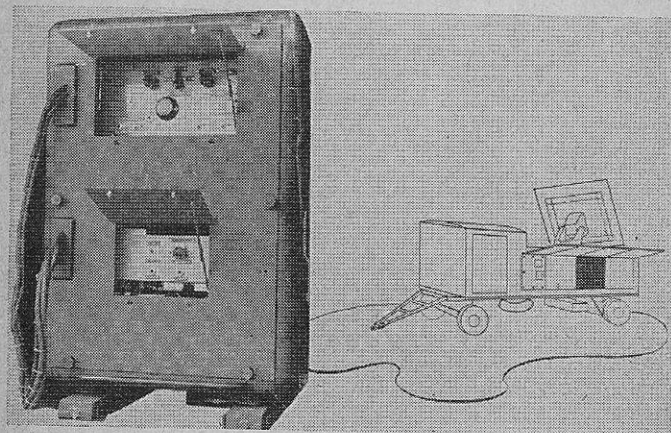

FIGURE 20.—Track receiver.
■ **18. TRACK RECEIVER.**—The **TRACK RECEIVER** (fig. 20), is provided to detect and amplify the signals delivered to it by the **TRACK** antenna. This unit is interconnected with the **TRACK RECEIVER CONTROL** unit in the trailer cab (par. 13) to permit remote control of beating oscillator tuning and gain.